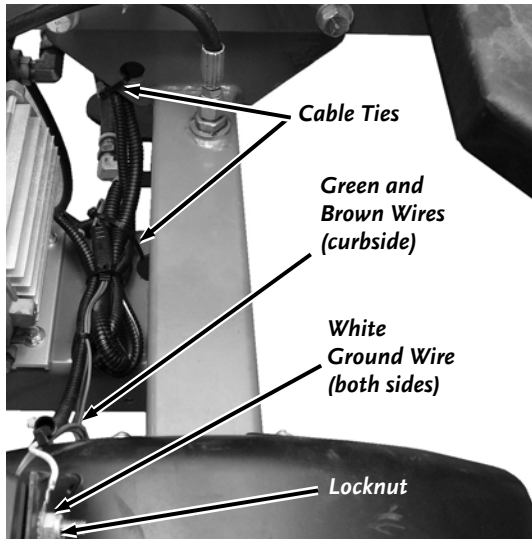

Figure 41
21. Plug in the Connector, place the Ground Wire onto the inner Stud and secure it with a 1/4-20 Locknut using a 7/16" Wrench (**Figure 41**).